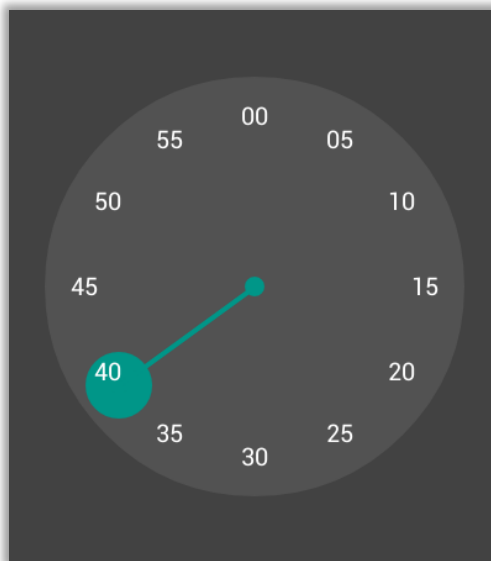

Fig. 64: Minute Window
- II After setting the hour, the minutes are set. The minute is adjusted by dragging the green circle on the analogue clock in Figure 64.